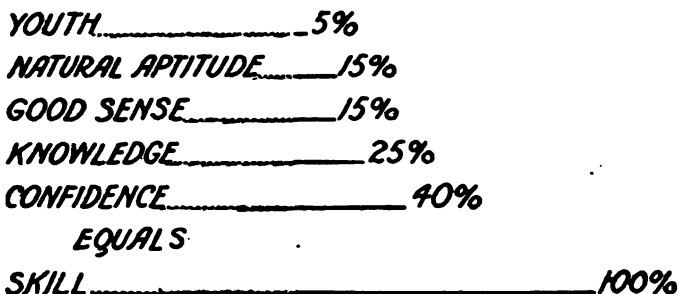

FIG. 59.—DIAGRAM SHOWING QUALIFICATIONS NEEDED BY A PILOT
Personal Adaptation.—There are five things you ought to have if you are to become an expert aviator, and these are: (1) youth, (2) natural aptitude, (3) good sense, (4) knowledge, and (5) confidence. The value which I have arbitrarily put on each of the above factors is shown in the diagram, Fig. 59, and, as you will see, youth is of the least importance and confidence is the greatest.